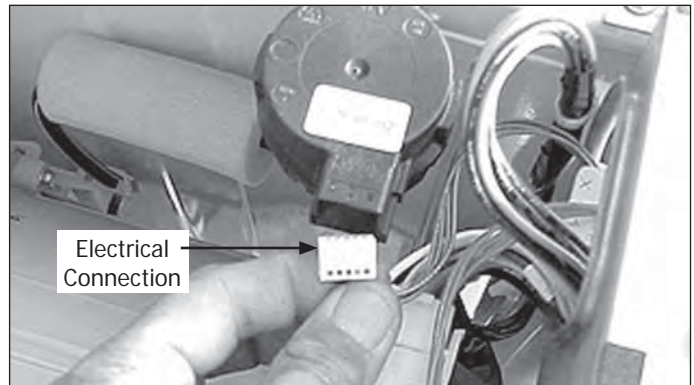

Figure 4-77.
2. Unplug the wire harness from the sensor. (See Figure 4-77)